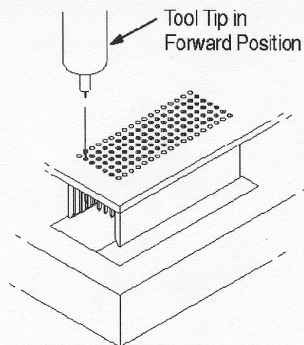

Figure 2
- If the tip of the signal pin contact is flush with the board (or spacer) surface, position the tool tip in the FORWARD position (refer to Figure 2) and place the tool tip on the signal pin contact tip. The signal pin contact tip should be located in the concave tip of the tool.